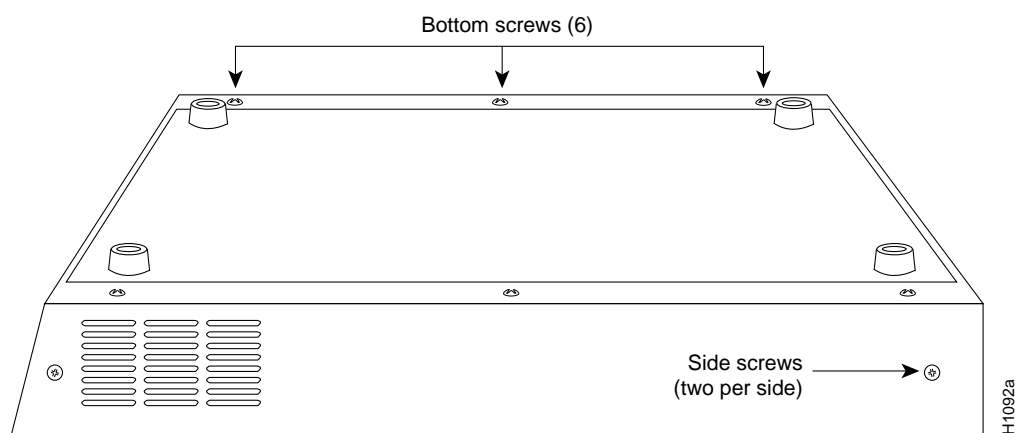

Figure 4 Screw Locations on the C Chassis Exterior—Side View
- Step 3** Use the No. 2 Phillips screwdriver to remove the ten screws that secure the cover of the C chassis. There are two screws on each side and six screws on the bottom of the chassis. (See Figure 4.)
- Step 4** Position the chassis so that the back (the side with the ports) is on your left; the front of the chassis (with the LED) is on your right; and the chassis top is facing up. (This is completely opposite of the chassis position shown in Figure 4.)